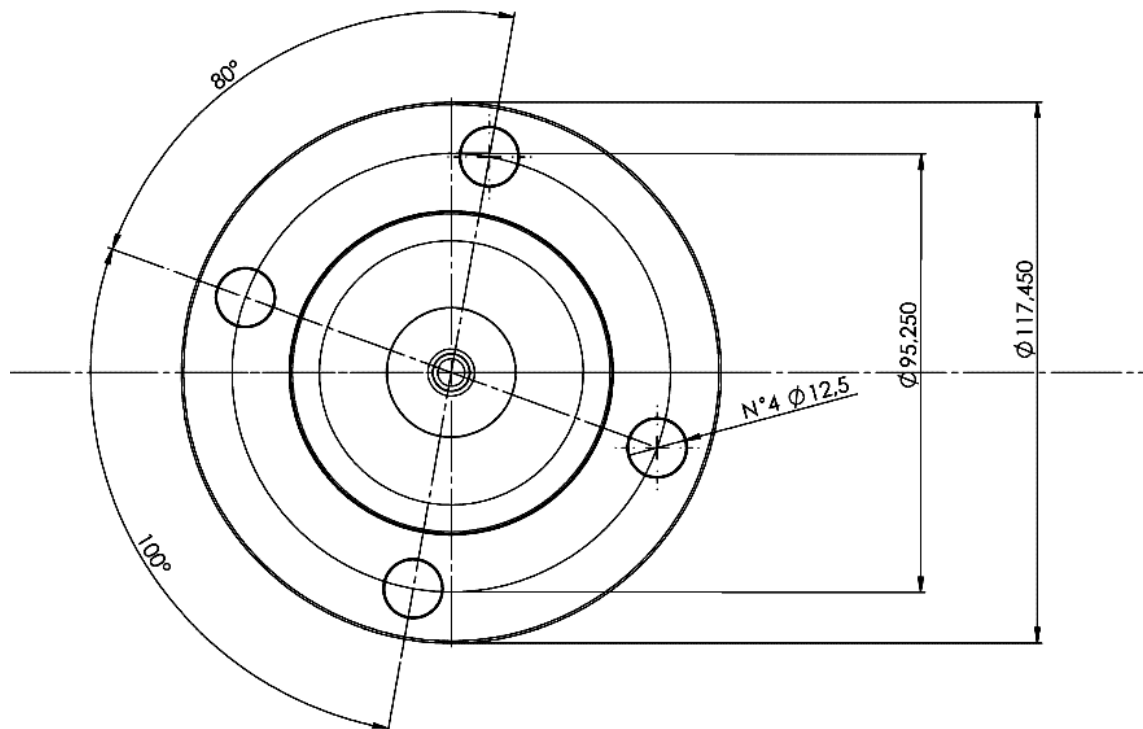

Figure 9: Spicer 1400 series adapter flange
- a. Spicer 1400 Flange: A 947 260 03 17 (See Figure 9 for the dimensions)
- Spicer 1400 Flange Kit: A 947 260 09 17 (See Figure 9 for the dimensions)